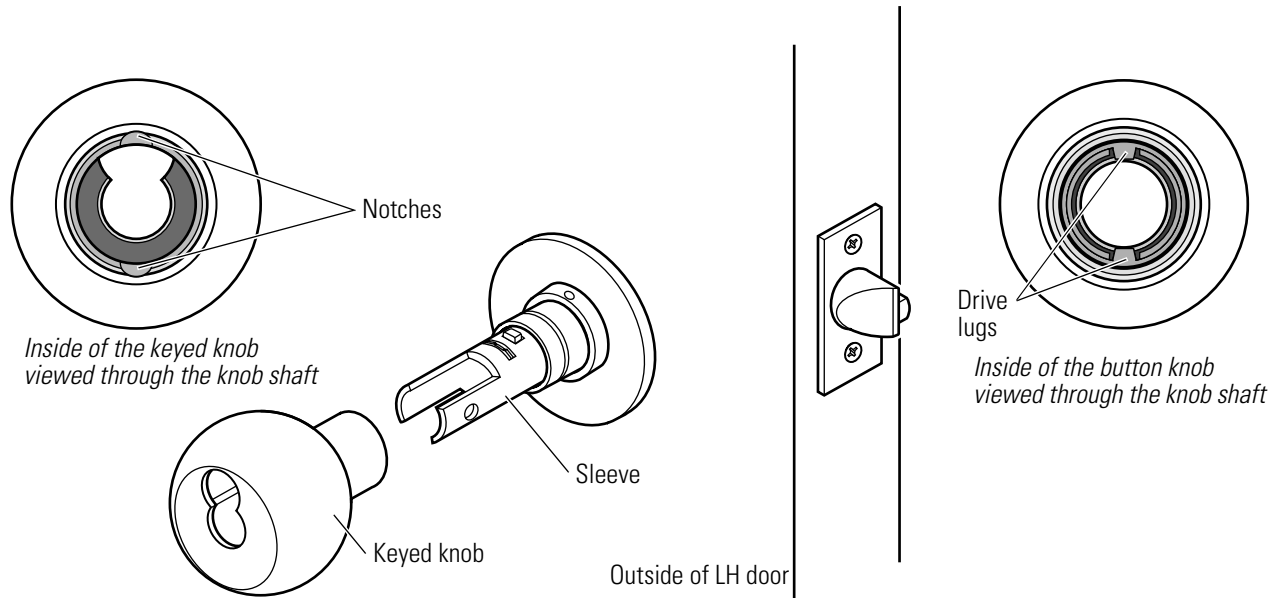

Figure 3.4 Reinstalling the knob
1. Align the two drive lugs (plain or button knob) or notches (keyed knob) with the two slots in the sleeve, as shown in Figure 3.4.